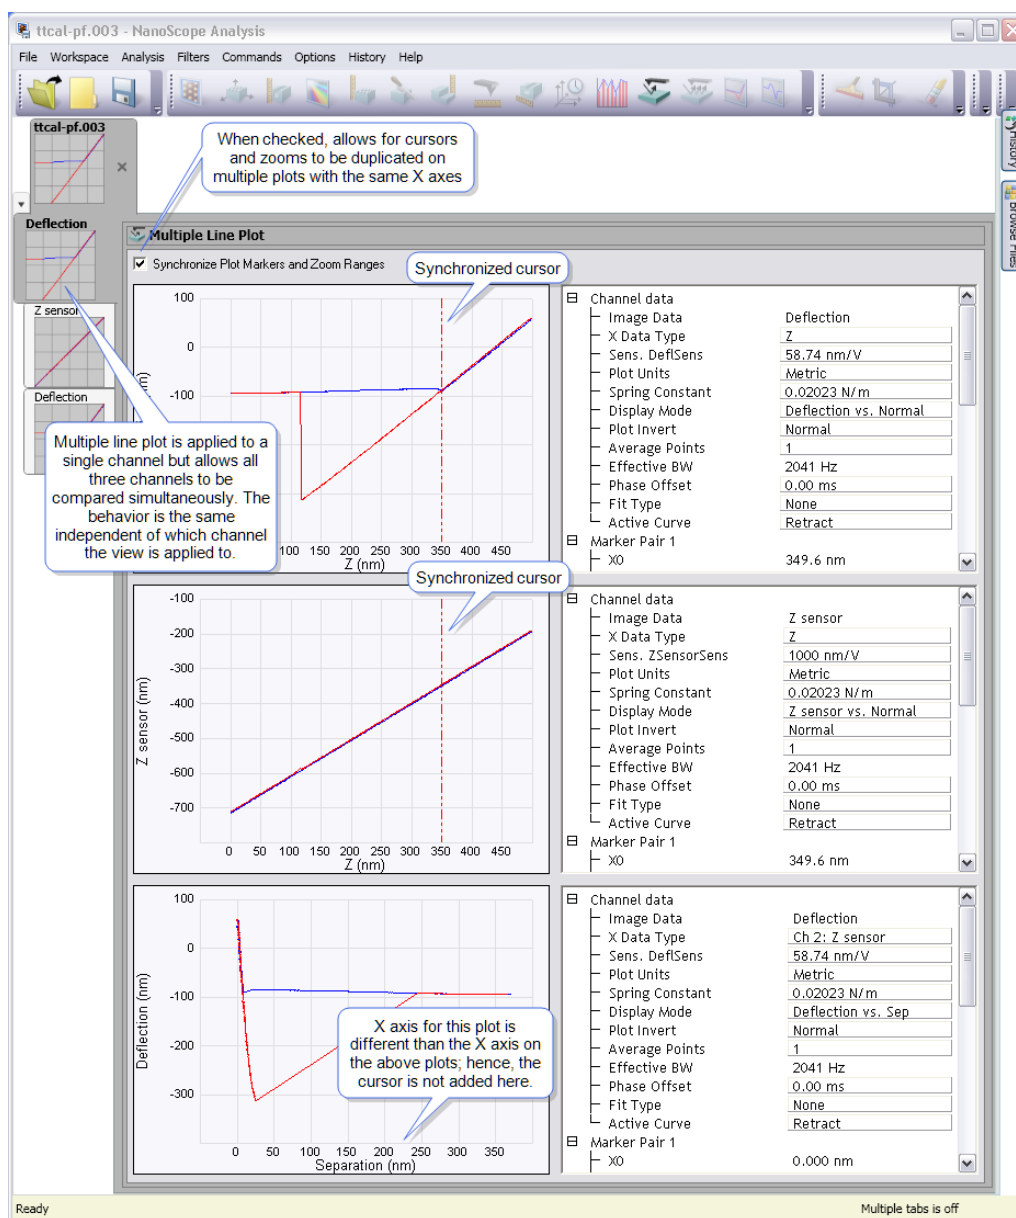

Figure 7.2c: Multiple Line Plot Window
- To open a **Multiple Line Plot**, click on the **Multiple Line Plot** icon from the Analysis toolbar. See the **Multiple Line Plot** window shown in Figure 7.2c.